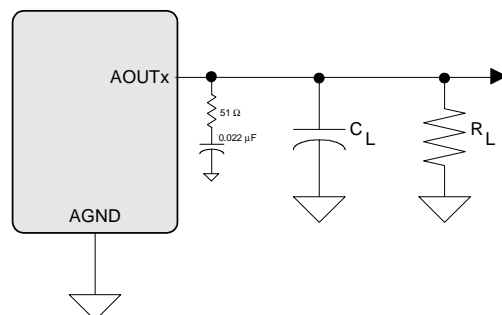

Figure 3. Headphone Output Test Load
(Test conditions (unless otherwise specified): Input test signal is a full-scale 997 Hz sine wave; measurement bandwidth is 10 Hz to 20 kHz; Sample Frequency = 48 kHz and 96 kHz; test load $R_L = 10\text{ k}\Omega$, $C_L = 10\text{ pF}$ for the line output (see Figure 3), and test load $R_L = 16\text{ }\Omega$, $C_L = 10\text{ pF}$ (see Figure 3) for the headphone output.
Test conditions (unless otherwise specified): Input test signal is a full-scale 997 Hz sine wave; measurement bandwidth is 10 Hz to 20 kHz; Sample Frequency = 48 kHz; test load $R_L = 10\text{ k}\Omega$, $C_L = 10\text{ pF}$ (see Figure 3).
Test conditions (unless otherwise specified): Input test signal is a full-scale 997 Hz sine wave; measurement bandwidth is 10 Hz to 20 kHz; Sample Frequency = 48 kHz; test load $R_L = 16\ \Omega$, $C_L = 10\ \text{pF}$ (see Figure 3).
- See Figure 3. R_L and C_L reflect the recommended minimum resistance and maximum capacitance required for the internal op-amp's stability and signal integrity. In this circuit topology, C_L will effectively move the band-limiting pole of the amp in the output stage. Increasing this value beyond the recommended 150 pF can cause the internal op-amp to become unstable.